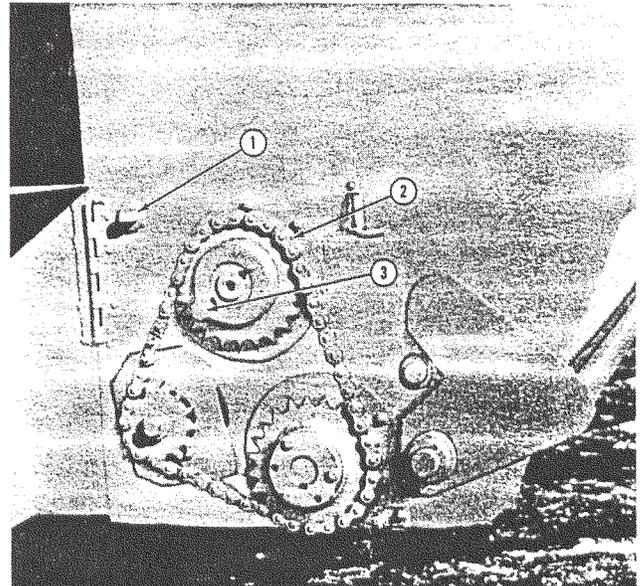

Figure 7
10. The operator may wish to disengage the front hopper agitator while spreading clean dry aggregate. This operation is performed by removing the agitator sprocket drive bolt. (Figure 7).